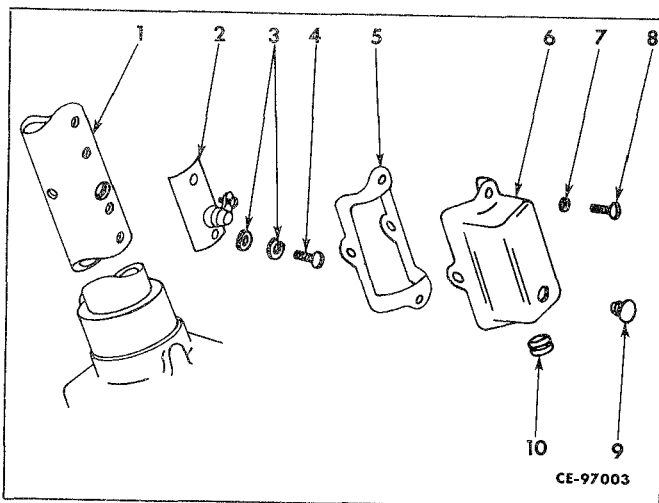

Figure 8-6
Remove the screws (8, Fig. 8-6) and lock washers (7) that secure the cover (6) to the jacket and tube (1); remove the cover and